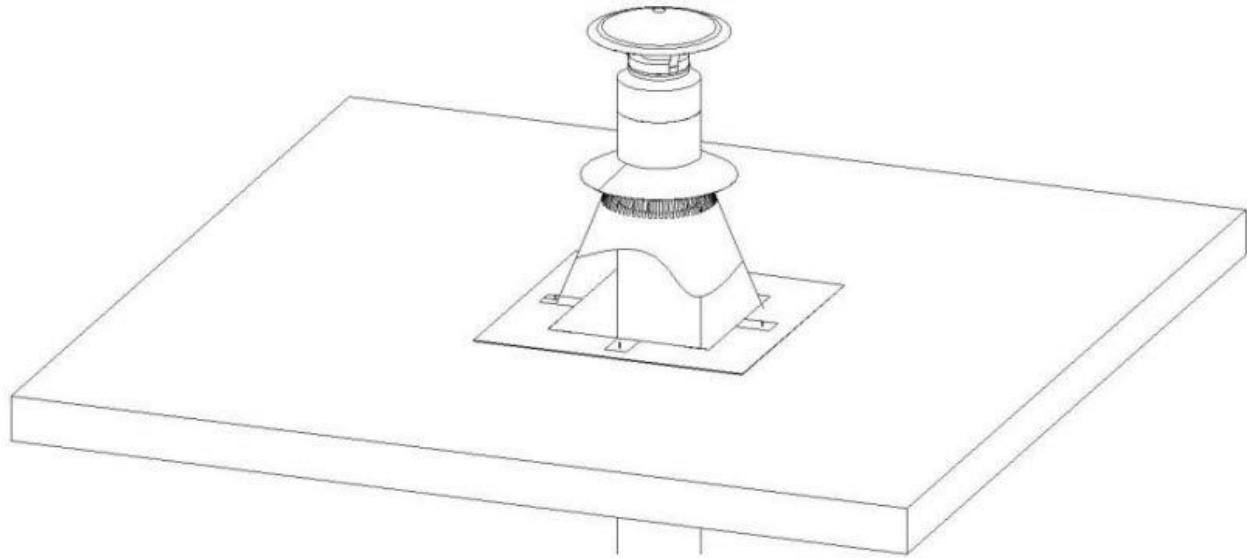

Fig 25
6. **Install Flat Roof Flashing:** It is recommended that a Tee Supported Chimney be enclosed in a chase. If a chase enclosure has been constructed, you can use a Ventilated Flat Roof Flashing (Fig 25) to seal the chase.